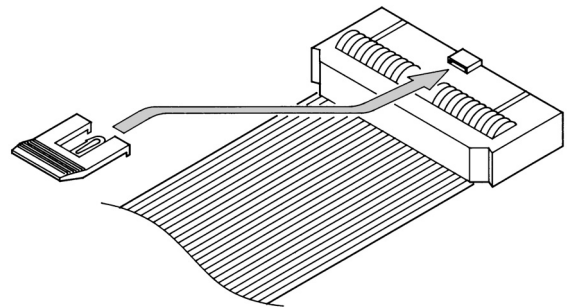

Fig. 8-5
1. As shown in Fig. 8-5, mount the accompanying lock lever on the connector.